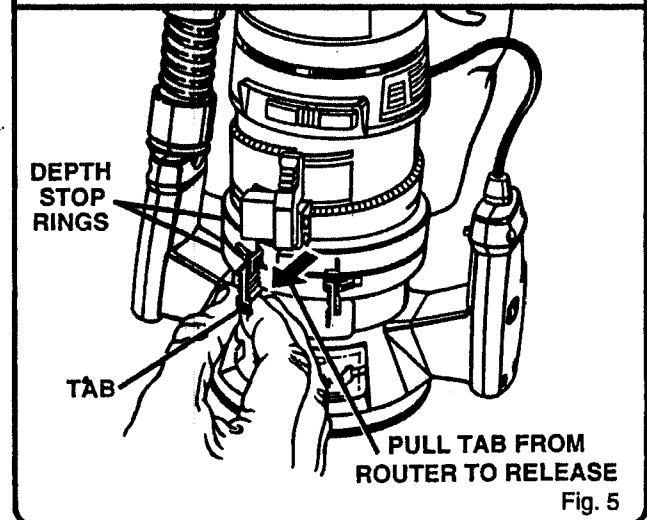

Fig. 5
See Figures 5 and 6.
1. Release depth stop rings. To release: grasp depth stop ring tab with your thumb and index finger, and pull away from router as shown by the arrow. See Figure 5.